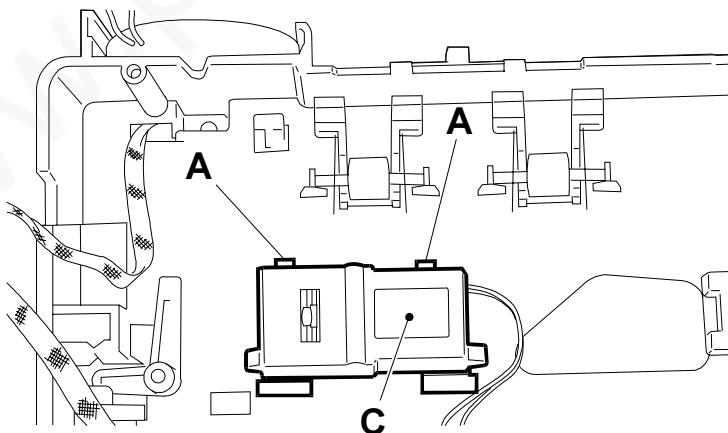

Fig. 7-23
- 2) Flip over the fax machine and release container **C** of the E.M. by flexing tabs **A** (Fig. 7-23):